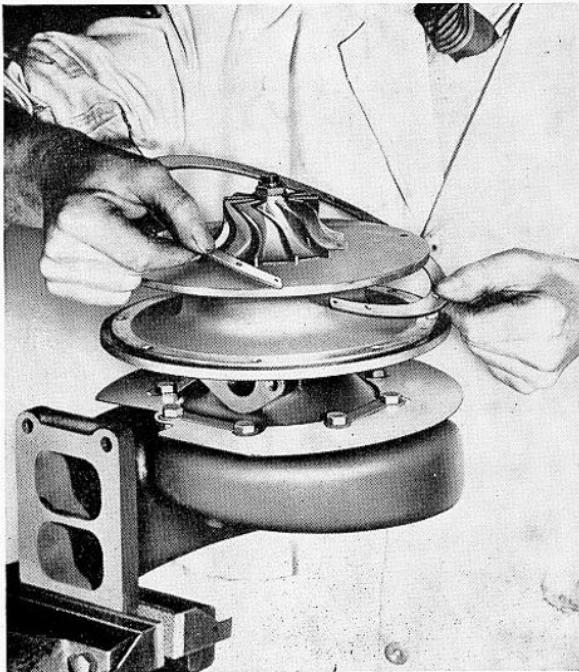

FIG. 9. PLACING LOCK RING OVER COMPRESSOR HOUSING
6. Put the cover lock ring in place on compressor housing (Fig. 9).